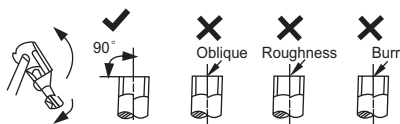

Fig. 9 – Cut the Pipe
2. Cut the pipe, with a pipe cutter, at 90 degrees (see Fig. 9).